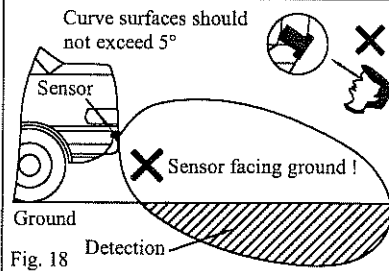

Fig. 18
3. Ensure that the bumper surface where the sensors are to be mounted is flat. If not, the curve surface should not be more than 5 degrees facing to the ground. (Fig. 18)
4. Ensure that the bumper surface where the sensors are to be mounted is flat. If not, the curve surface should not be more than 5 degrees facing to the ground. (Fig. 18)
**Important !** Ensure that the sensors are mounted at the correct position. The dot mark of the sensor should always be in the horizontal position as shown in Fig. 18